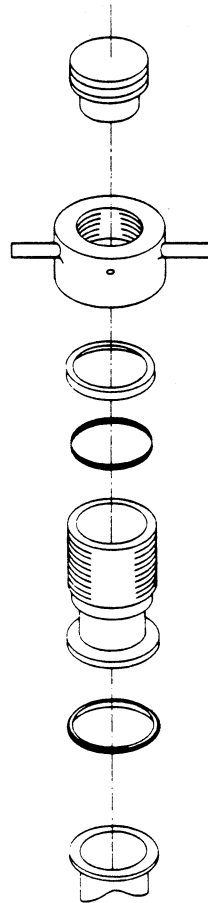

Figure 5-7. Exploded view of test port
- 5 Separate the valve spring (6) and valve seat (7).
- 6 Remove valve body O-ring (8). DO NOT USE A SHARP METAL TOOL; it may damage the sealing surface.
- 9 Remove the KF clamp at the test port. Disassemble it as shown in Figure 5-7. Discard all O-rings.